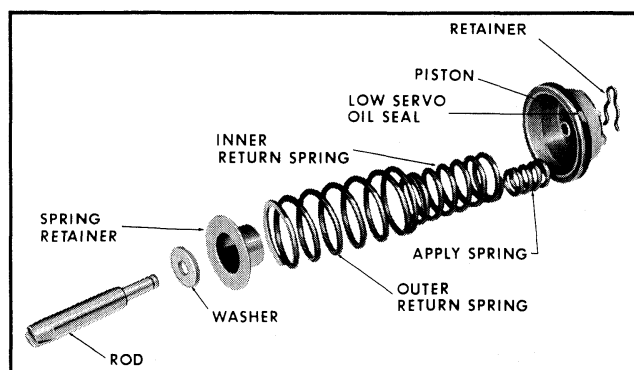

Fig. 7B-98 Low Servo Assembly - Exploded View
2. Remove retainer and release pressure slowly. Separate parts of assembly (Fig. 7B-98).